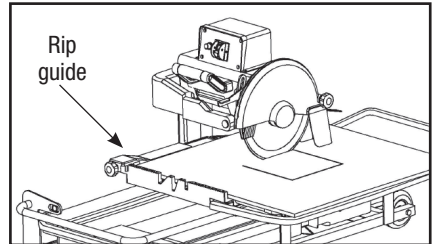

FIGURE 20
STEP 9: Slowly push the blade down into the tile to achieve the plunge internal cut you desire (FIGURE 20).